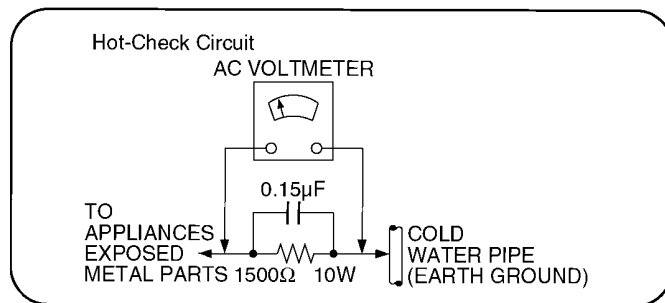

Figure 1
2.1.2. Leakage Current Hot Check (See Figure 1.)
2. Connect a 1.5kohm, 10 watts resistor, in parallel with a 0.15µF capacitors, between each exposed metallic part on the set and a good earth ground such as a water pipe, as shown in Figure 1.